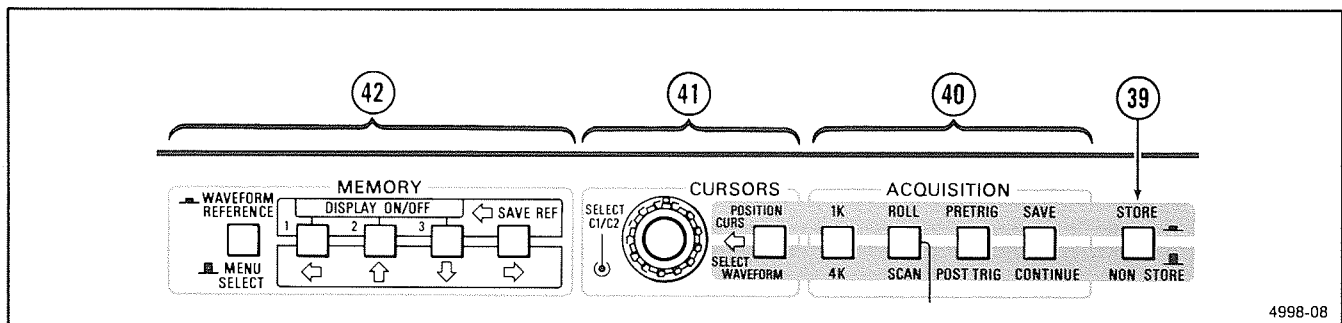

Figure 3-5. Storage controls.
Refer to Figure 3-5 for location of items 39 through 42.